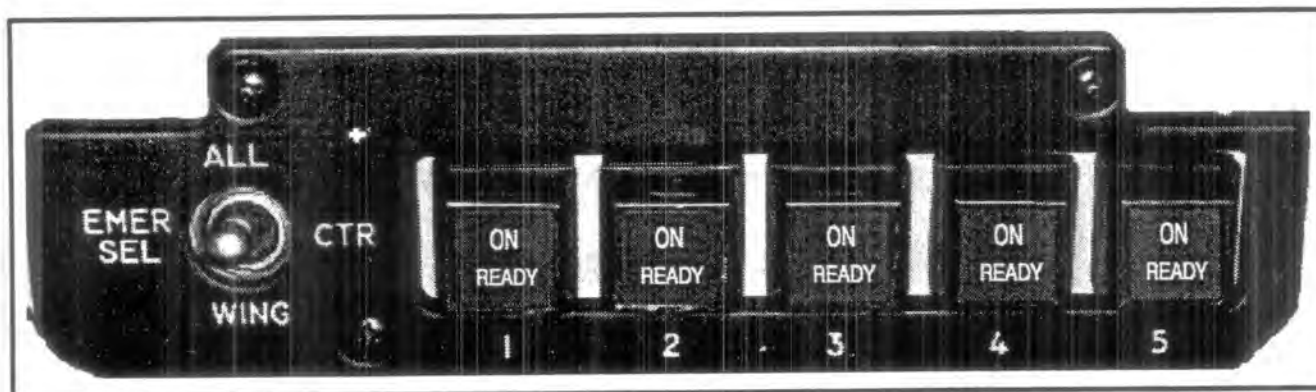

Figure 8-2 Aft Armament Panel
8.21 An aft armament panel shown in Figure 8-2 is located at the bottom edge of the aft cockpit instrument panel of the TA-4K. The aft panel contains station select indicators and an EMER SEL switch. The station select indicators simply repeat the lit indications shown on the forward cockpit pushbutton indicators.